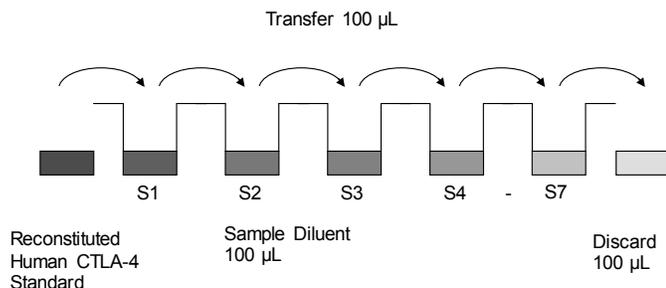

Fig. 7 Dilute standards - microwell plate
- Standard dilution on the microwell plate (Alternatively the standard dilution can be prepared in tubes - see "External standard dilution" on page 3): Add 100 μL of Sample Diluent in duplicate to all standard wells. Pipette 100 μL of prepared standard (see Preparation of Standard "Human CTLA-4 standard" on page 3, concentration = 20 ng/mL) in duplicate into well A1 and A2 (see Table 1). Mix the contents of wells A1 and A2 by repeated aspiration and ejection (concentration of standard 1, S1 = 10 ng/mL), and transfer 100 μL to wells B1 and B2, respectively (see Figure 7). Take care not to scratch the inner surface of the microwells. Continue this procedure 5 times, creating two rows of human CTLA-4 standard dilutions ranging from 10.00 to 0.16 ng/mL. Discard 100 μL of the contents from the last microwells (G1, G2) used.